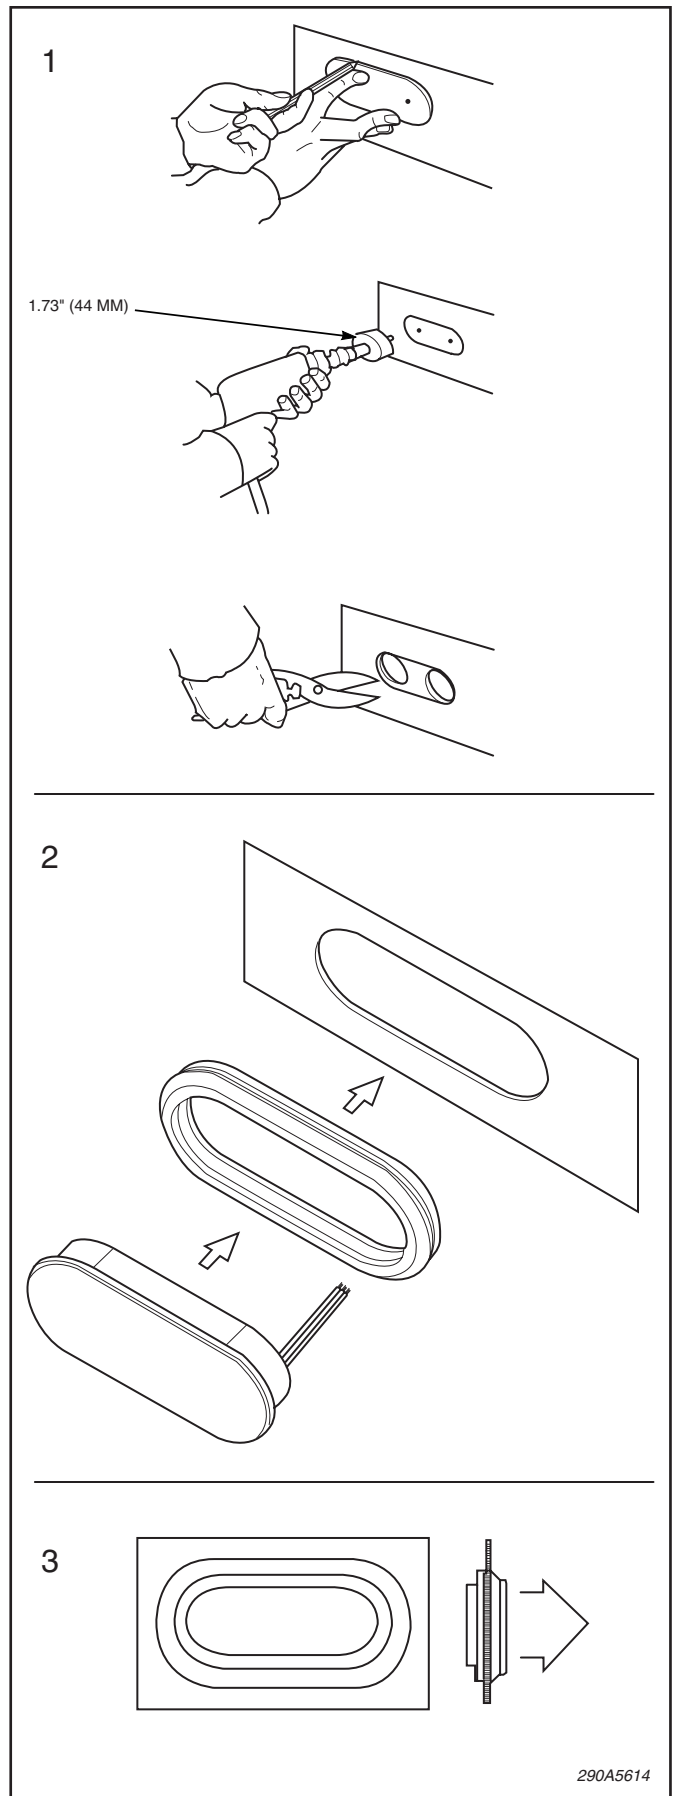

Figure 2.
2. Using figure 2 as a guide and the Flush Mount template (supplied in FS #330502), scribe the outline and center mark locations on the mounting surface.